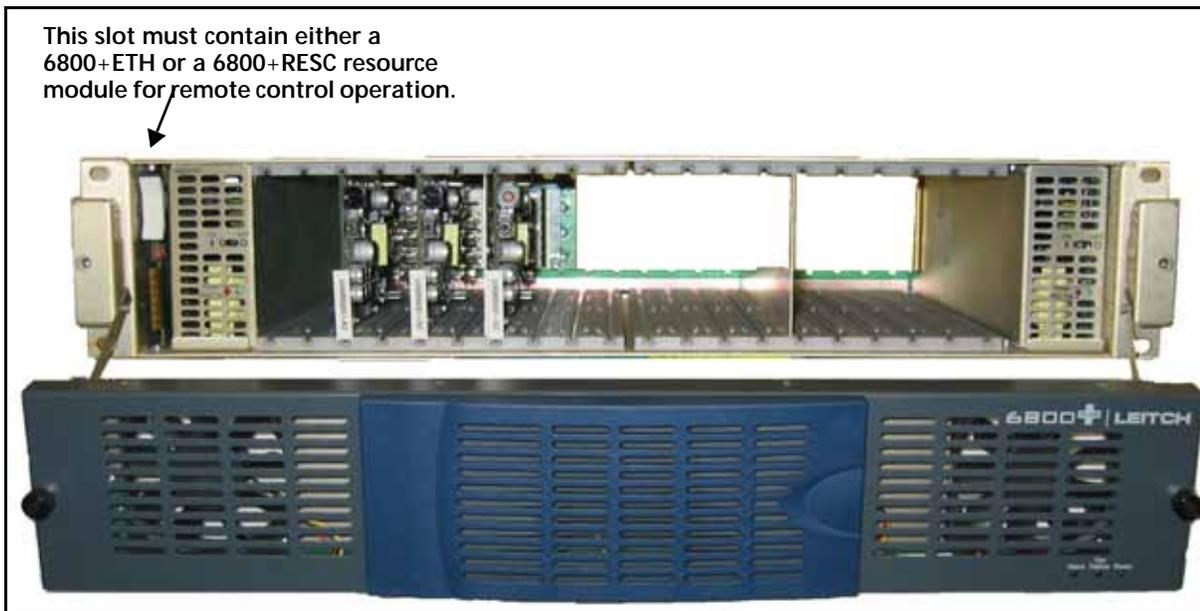

Figure 2-6 Location of Resource Module within a FR6802+QXF Frame
- 3 Locate the slot that corresponds resource module on the left side of the frame, beside the power supply. (See Figure 2-6 on page 16.)
- 2 Locate the resource module on the left side of the frame, beside the power supply. (See Figure 2-6.)